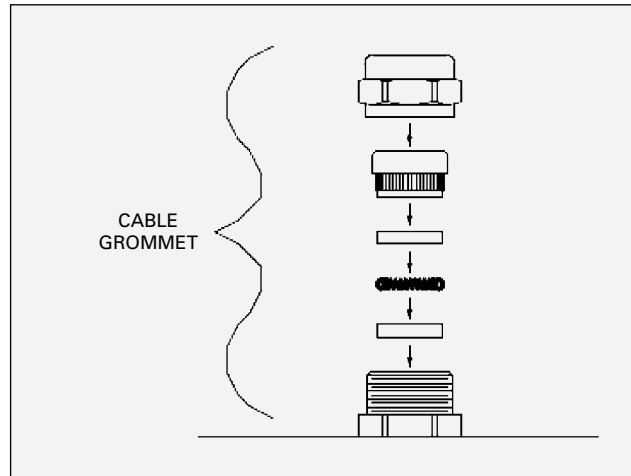

Figure 7: Cable Grommet
1. Remove the cable grommet hardware from the desired I/O connector housing (See Figure 7).
4. Slide the cable grommet hardware onto the cable in the order shown in Figure 7.